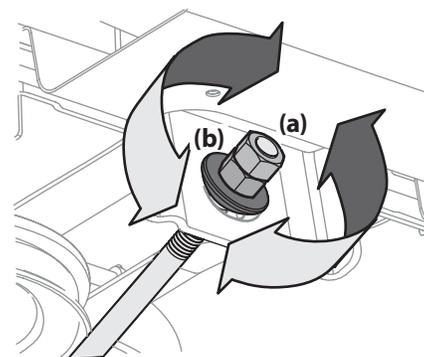

Figure 4-6
5. To raise the front of the deck, remove the end cap, loosen the outer nut (a) then tighten (thread inward) the inner nut (b) against the front hanger bracket. See Figure 4-6. When proper adjustment is achieved, re-tighten the outer nut (a) and replace the end cap.
6. To lower the front of the deck, remove the end cap, loosen the outer nut (a) then loosen (thread outward) the inner nut (b), away from the front hanger bracket. See Figure 4-6. When proper adjustment is achieved, re-tighten the outer nut (a) and replace the end cap.